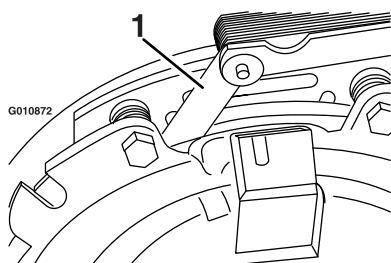
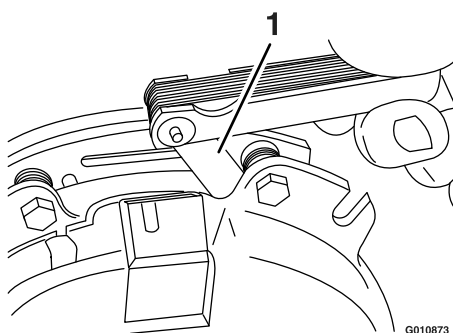

Figure 79
Figure 80
- E. Using a 0.010 inch thick-feeler gauge, verify that a gap is present between the rotor and armature face on both sides of the brake pole as shown in Figure 79 and Figure 80.